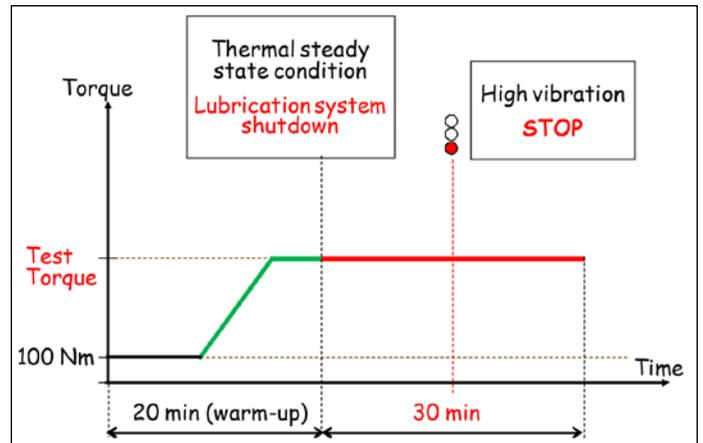

Figure 1 Test procedure.
- Over the years, HMC has seen misalignment cases where companies get in a hurry and/or have a lack of proper supervision and instructions. The girth gear driving pinion ends up getting aligned to the reducer, causing a misalignment issue between the girth gear teeth and the driving pinion teeth (Fig. 1).
Figure 1 Example of girth gear misalignment: girth gear driving pinion end is aligned to the reducer, causing misalignment between the girth gear teeth and driving pinion teeth (courtesy HMC).
The tests involved (Fig. 1):